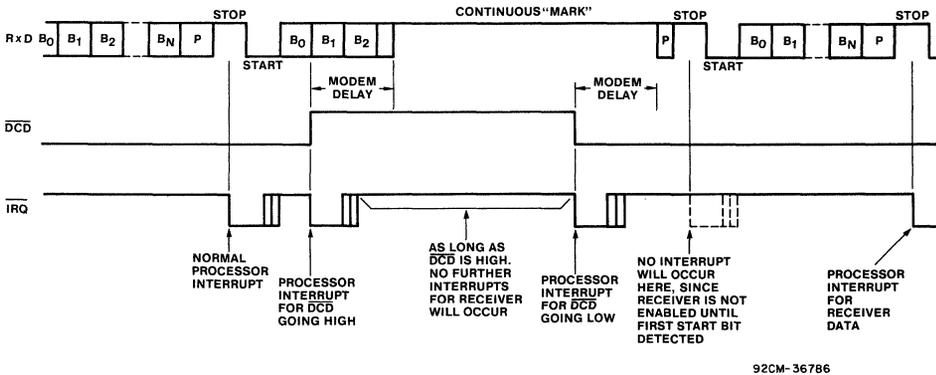

Fig. 17 - Effect of DCD on receiver.
**Effect of DCD on Receiver (Fig. 17)**